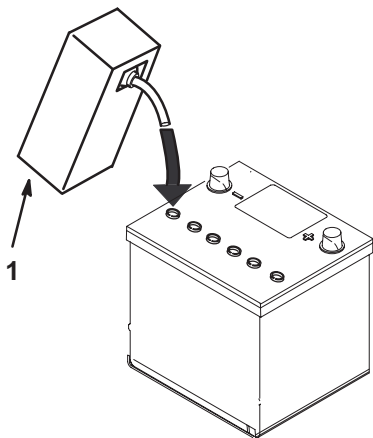

Figure 3
4. Allow approximately 20 to 30 minutes for the electrolyte to soak into the plates. Refill as necessary to bring the electrolyte to within about 1/4 inch (6 mm) of the bottom of the fill well (Fig. 3).